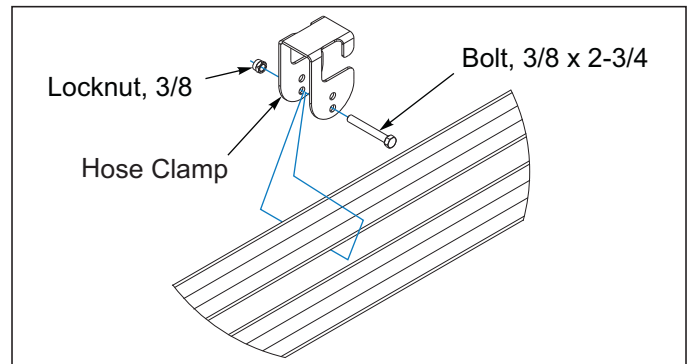

Figure 3-11: Hose Clamp Installation
11. Attach hose clamps to the center and wing frames **See Figures 3-11** using 3/8 x 2-3/4 hex head cap screws and 3/4 lock nuts.